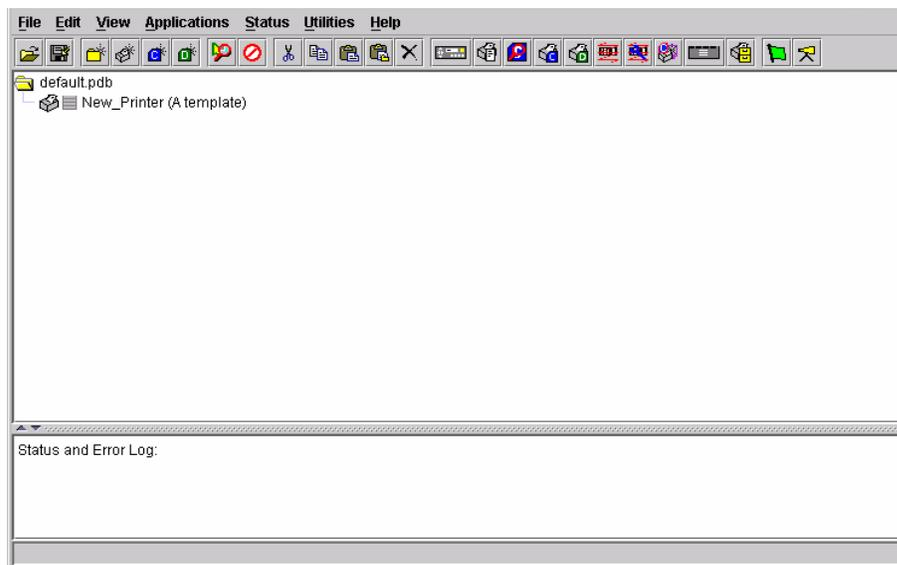

Figure 1. Printer Database Main Window
2. From your operating system, launch the PMU. Click the splash screen to see the main window of the Printer Database more clearly. See Figure 1.